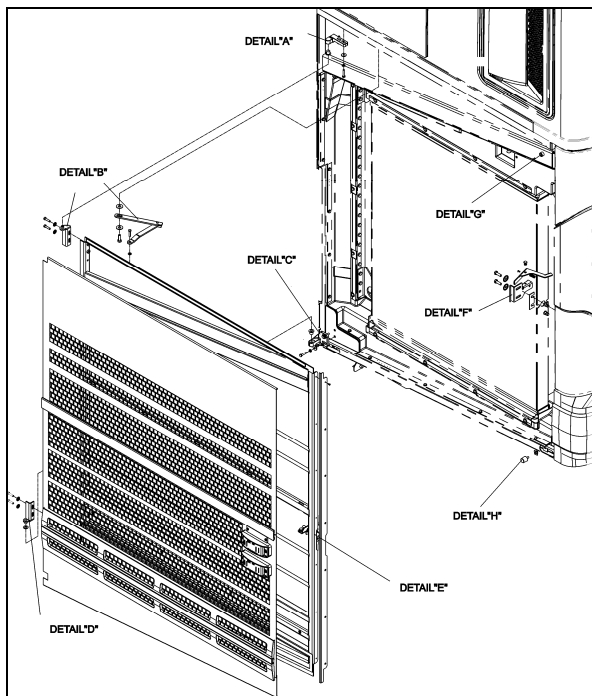

FIGURE 74: RADIATOR DOOR
1. Loosen the bolts, (1, Figure 74) holding the hinge to the vehicle structure to shift the door "LEFT or RIGHT".
2. Loosening the bolts (2, Figure 74) allows the door to be shifted "UP or DOWN".